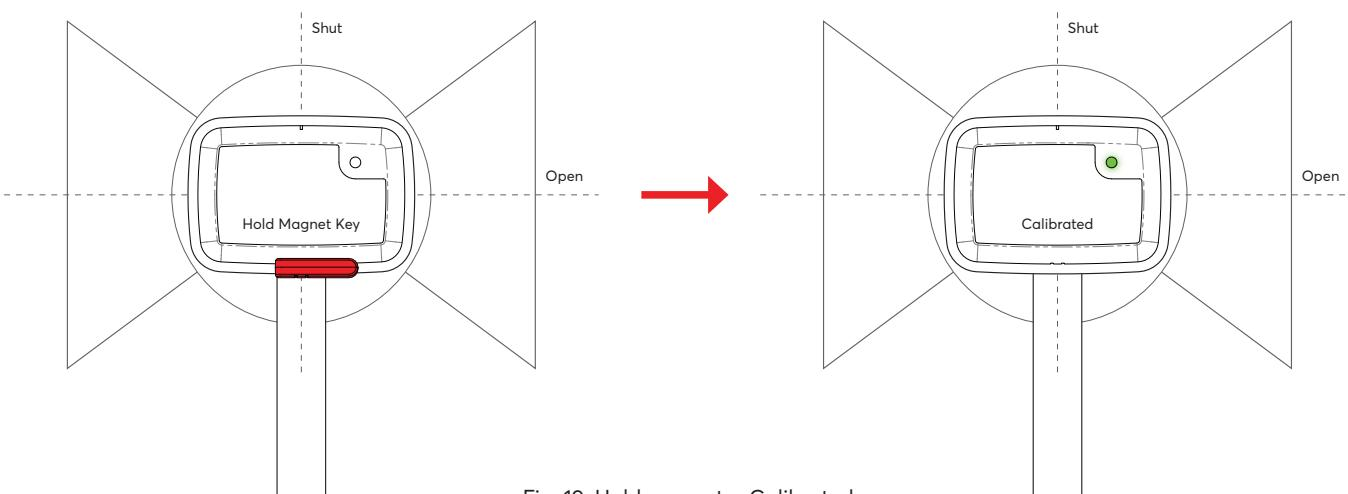

Fig. 19: Hold magnet → Calibrated
1. Hold the magnet key on the indicators of the device (Fig. 19 Page 4) and keep holding it, after 1 second the device will show its state